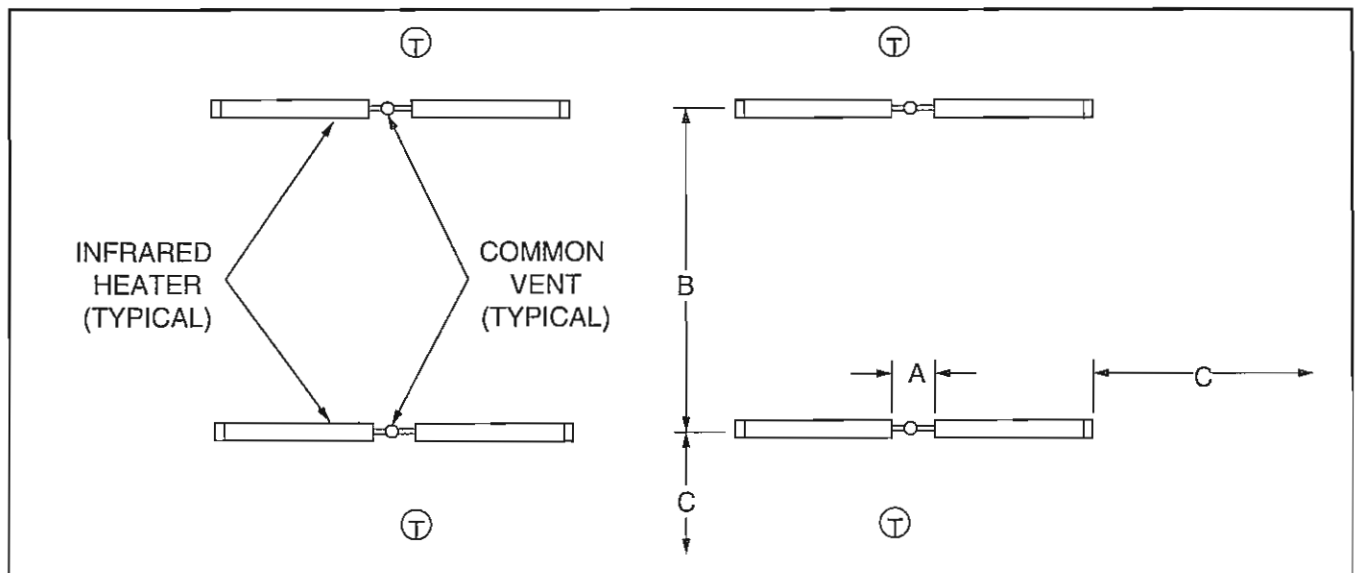

Figure 1-1
Perimeter mounting of these infrared heaters provides for the most efficient installation. In Figure 1-1, the heaters are mounted at the perimeter of the
- **Do not** combine the exhaust vents of two heaters into a straight-through tee. A Part No. Y or staggered-tee arrangement **must be** used. Heaters sharing the same vent must share the same thermostat. Common vents must have a 6 in. diameter (see Figure 1-1).